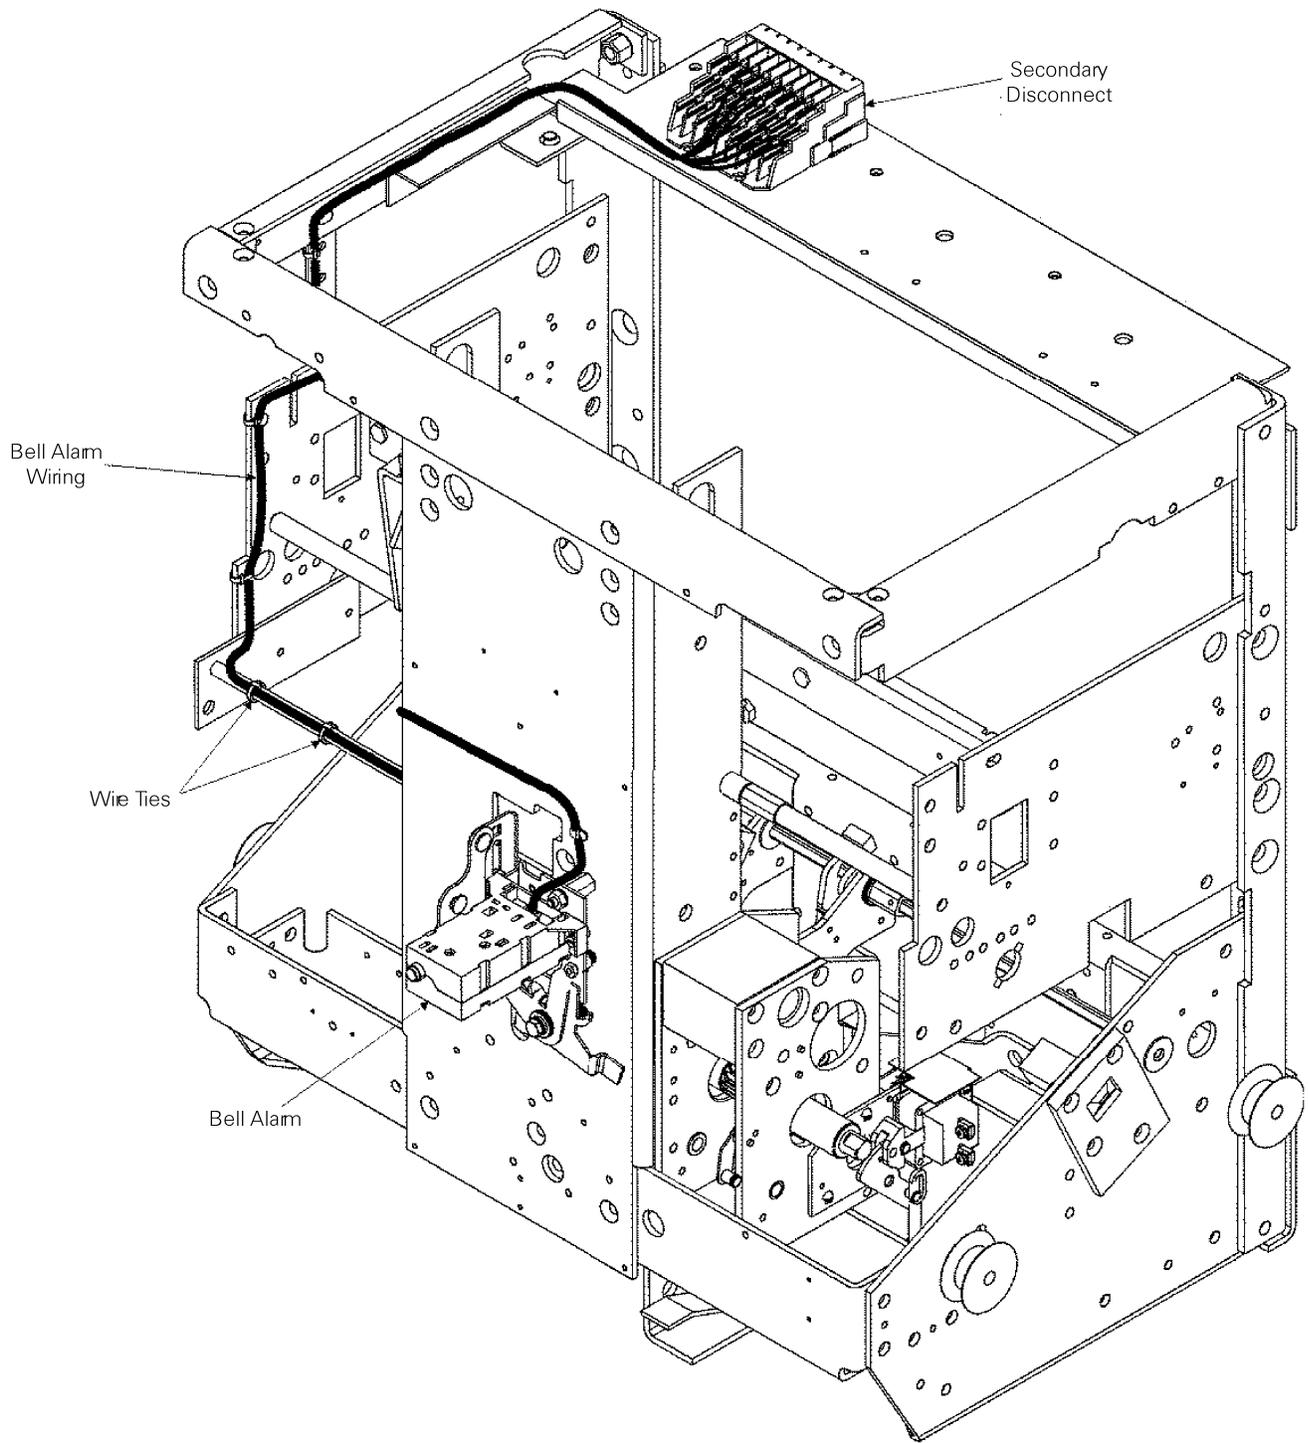

Figure 5. Path for routing wires from the Bell Alarm with Lockout to the secondary disconnect.
8. Run the wires from the Bell Alarm module to the secondary disconnect, as illustrated in Figure 5. Attach the wires to the breaker frame with wire ties, as indicated. Table 1 lists the wire colors and terminal numbers. Figure 6 shows the secondary disconnect terminal numbering scheme, as seen from the front of the breaker, with the Bell Alarm terminals in bold.